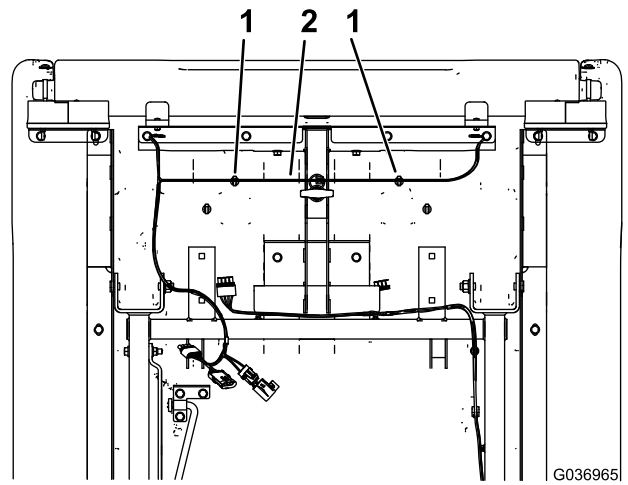

Figure 6
3. Secure the wire harness to the push fasteners under the cargo bed using the cable ties on the fasteners (Figure 6).